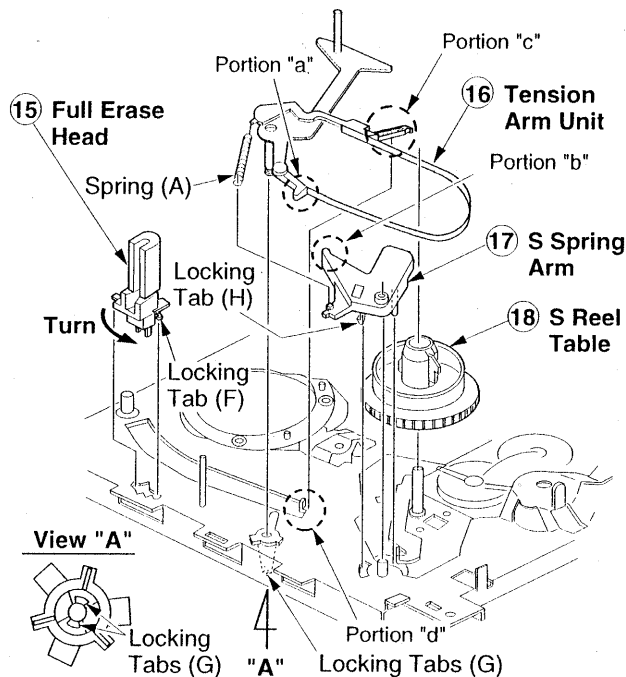

Fig. 14 - Full Erase Head/Tension Arm Unit/S-Spring Arm/S-Reel Table Removal
Full Erase Head/Tension Arm Unit/S-Spring Arm/S-Reel Table Removal (Figs. 14, 15)
1. Turn the full erase head fully counterclockwise as shown in Fig. 14 and then remove it.
2. Unhook spring (A).
3. Release one (2) locking tab (F) and remove the tension arm unit by pulling it up.
4. Release locking tab (G) and remove the S-spring arm.